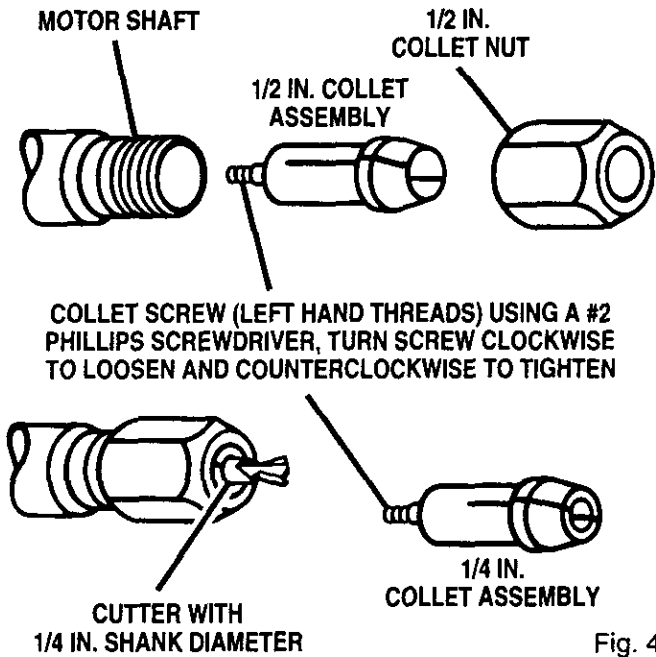

Fig. 4
- The 1/2 in. collet is machined to precision tolerances to fit cutters with 1/2 in. diameter shanks. A 1/4 in. collet assembly has also been provided with your router so that cutters with 1/4 in. shank bits can be used. See Figure 4.
■ Replace with the 1/4 in. collet assembly, securely tightening collet screw turning counterclockwise in collet to motor shaft, then reassemble 1/2 in. collet nut. *See Figure 4.*